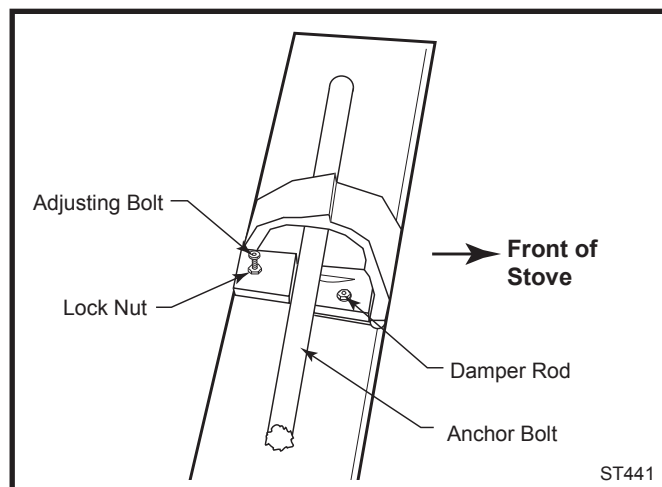

Fig. 29 Damper adjustment.
3. Loosen the adjusting bolt's lock nut. (Fig. 29)